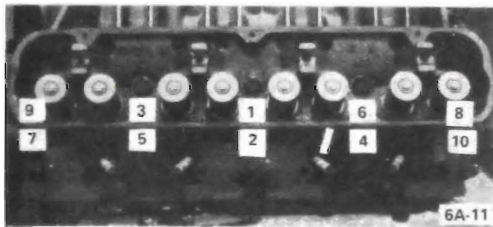

Figure 6A-11 - Cylinder Head Bolt Tighten Sequence (455 Shown)
5. Install head bolts. Tighten the bolts a little at a time about three times around in the sequence shown in Figure 6A-11. Give bolts a final torque in the same sequence. Torque to 80 lb.ft. (350 Cu In.) and 100 lb. ft. (455 Cu. In.).